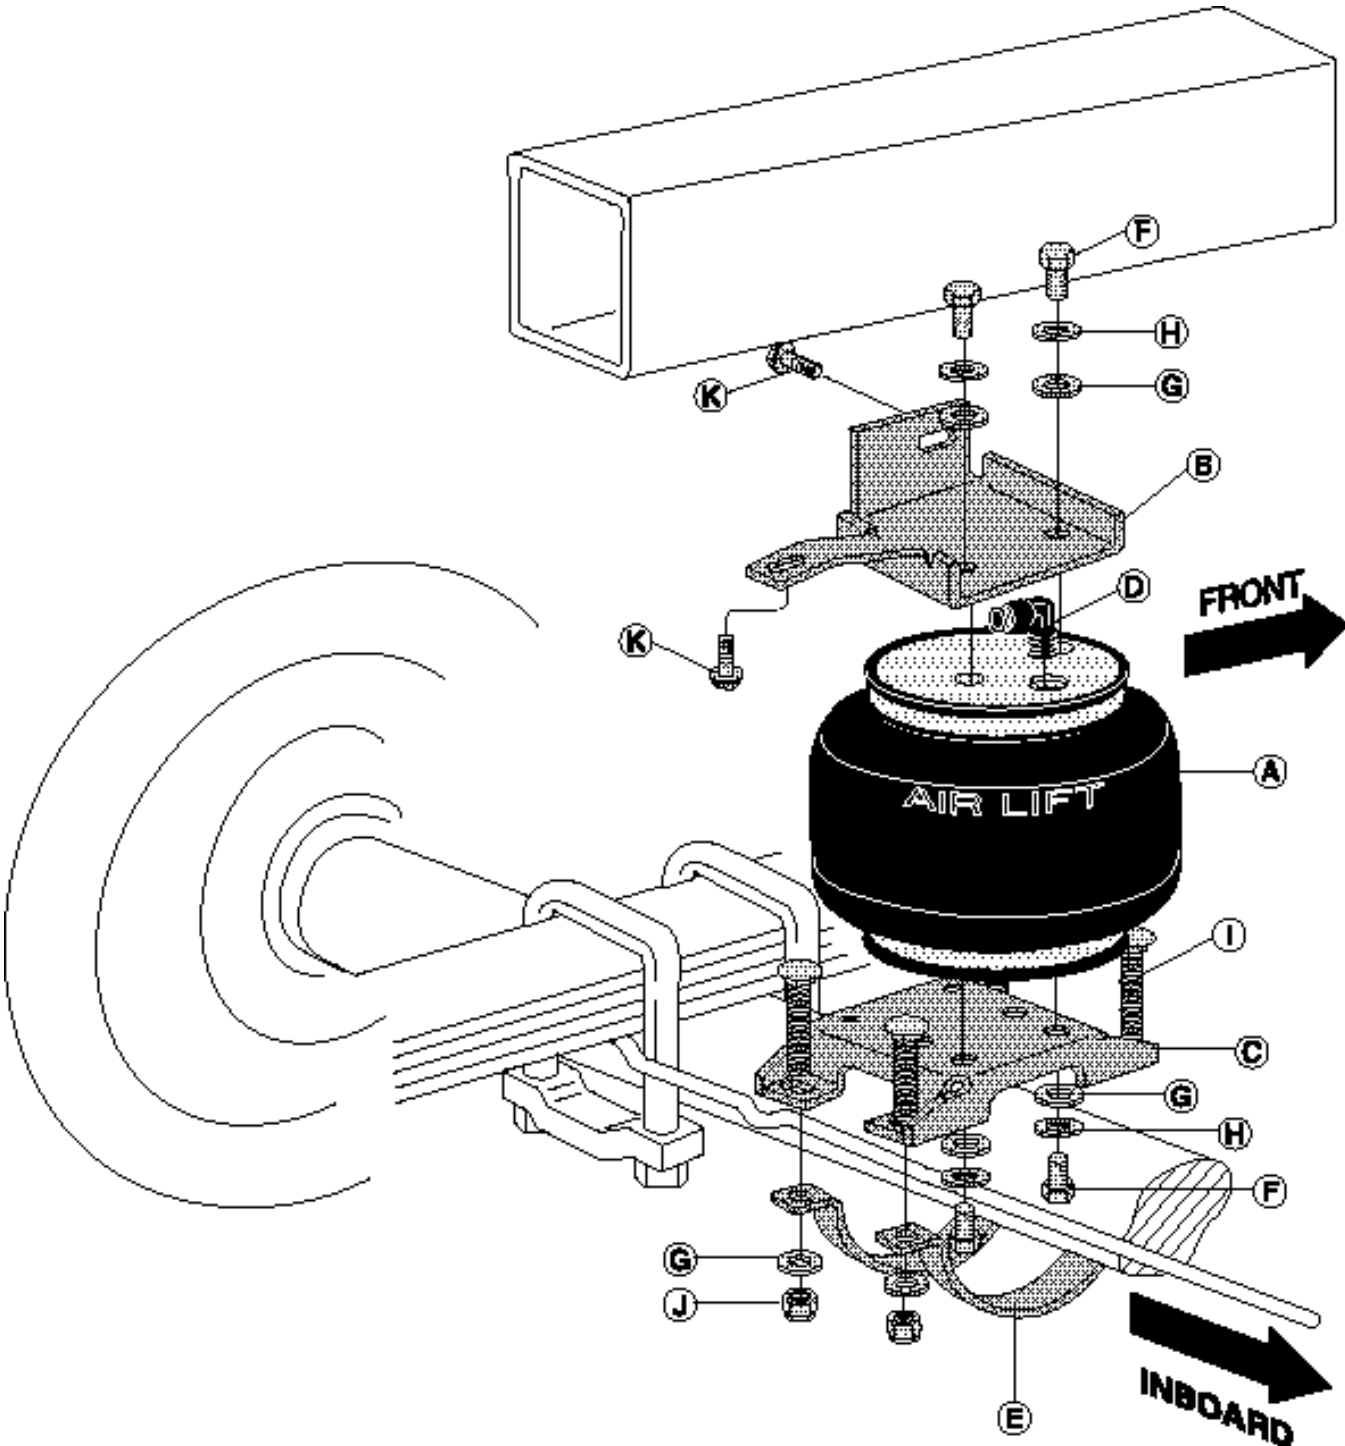

fig. 1
1. Install 90 degree air swivel fitting (D) to the top of the bellow. This fitting is precoated with sealant. Using an open-end wrench, tighten 1 and 1/2 turns (Figures 1 and 2).
2. Attach the upper bracket to the top plate (label end) of the bellows with two bolts (F), lock washers (H), and flat washers (G). Torque to 20 ft-lbs. Assemble both units (Figures 1 and 2) in this manner. There are left and right hand units (indicated by ìLHî or ìRHî stamped in the bracket).
7. Using the holes in the upper bracket as a template, drill two 5/16" holes into the frame. Insert and tighten the self tapping bolts (K) and torque to 15 ft-lbs. (Figures 1 and 7).